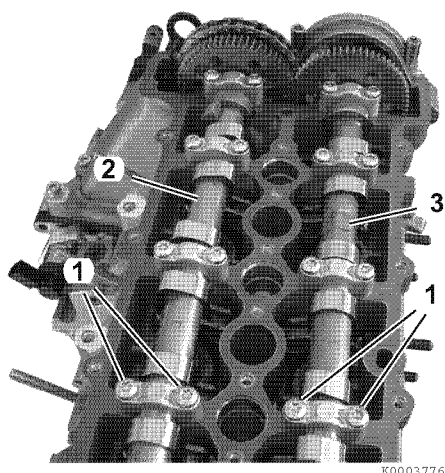

Figure 5-100
- Evenly loosen all camshaft bearing cap bolts (1, **Figure 5-100**) in 1/2-turn increments, working from each end towards the center.
- Remove the intake (2, **Figure 5-100**) and exhaust (3, **Figure 5-100**) camshafts.